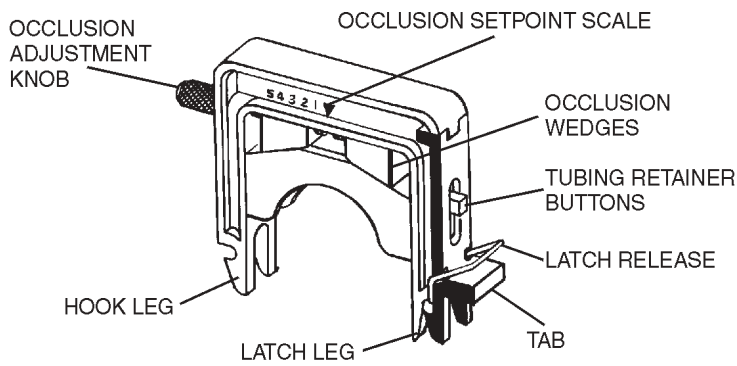

FIGURE 4 CARTRIDGE ASSEMBLY
1. Turn the Occlusion Adjustment Knob (see Figure 4) counterclockwise to maximum open. This step is not necessary when the occlusion is set at the factory setting or if the occlusion has already been set appropriately during previous pumping.
5. Swing the Cartridge with the tubing over the rotor and push down on the Tab (see Figure 4) until the Latch snaps closed. (See Figure 6E.) **Note:** Depress the Cartridge as required in the location indicated in Figure 6E to facilitate latching and unlatching.
2. Push down on latch side of Cartridge (see Figure 6E) and pull Latch Leg outward to unhook from rod. The Latch Release (see Figure 4) can be depressed to aid in this process as desired.
(4) Bi-Directional Pumping